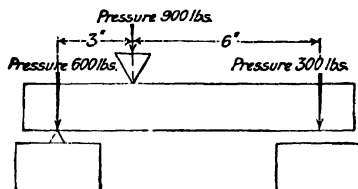

Fig. 8-36. The principle of levers. A mechanical principle that should be applied when clamping work.
2. The clamping bolt should be placed as close to the work as conditions will permit. By the principle of levers, the pressures on the work and on the clamping block are inversely proportional to their distances from the bolt. This is illustrated in Fig. 8-36.